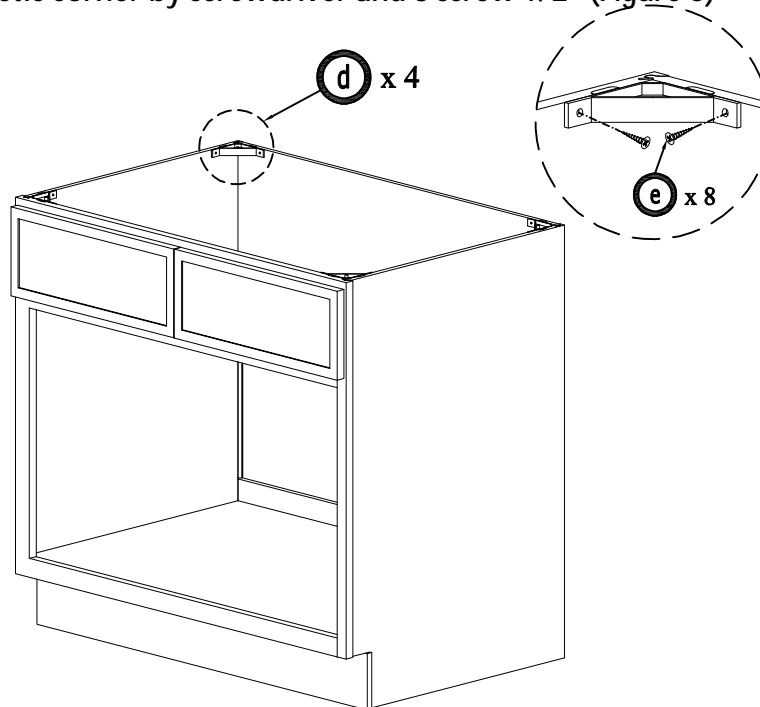

Figure 5
5. Assemble 4 plastic corner by screwdriver and 8 screw 1/2" (Figure 5)